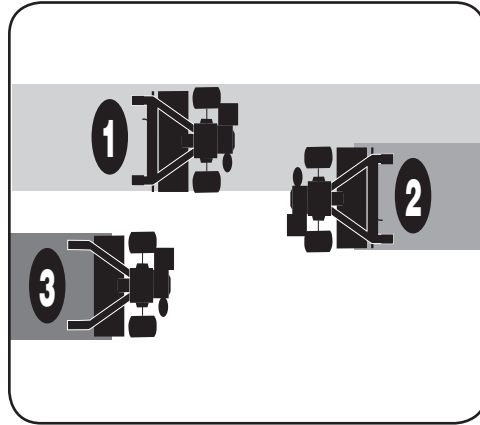

Figure 4-14
- If the garden size will not permit lengthwise and then crosswise tilling, then overlap the first passes by ½ a tiller width, followed by successive passes at ¼ width. See Figure 4-14.